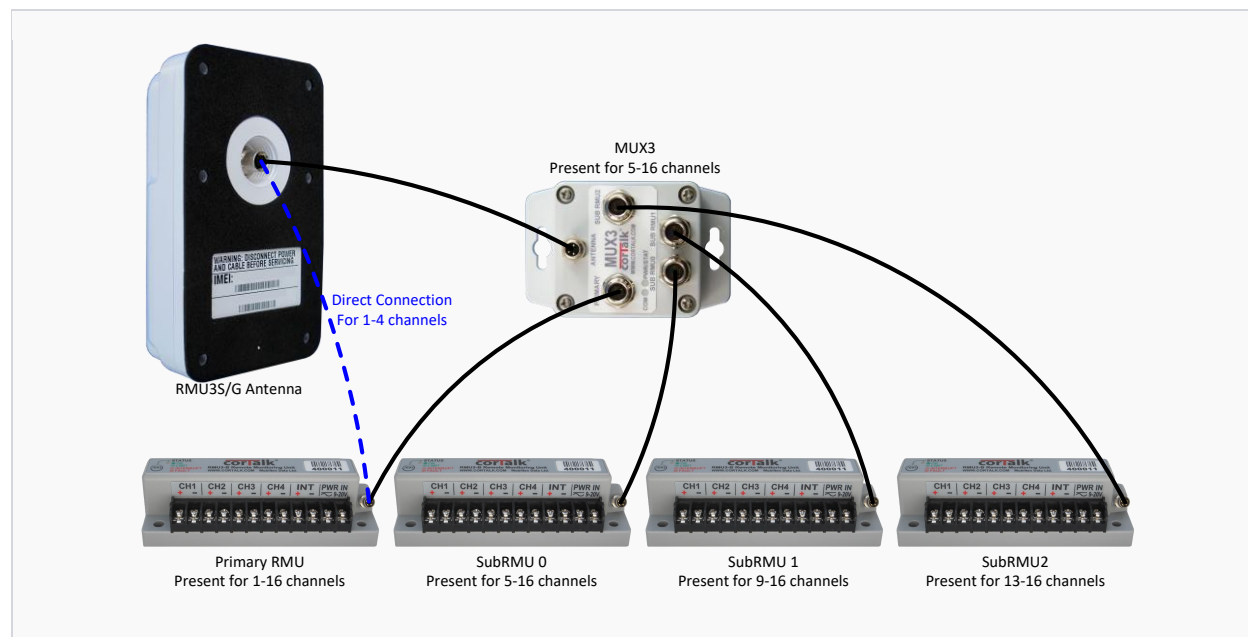

Figure 12 MUX3 Cable Connections
- Figure 12 shows how the interconnect cables should be attached.